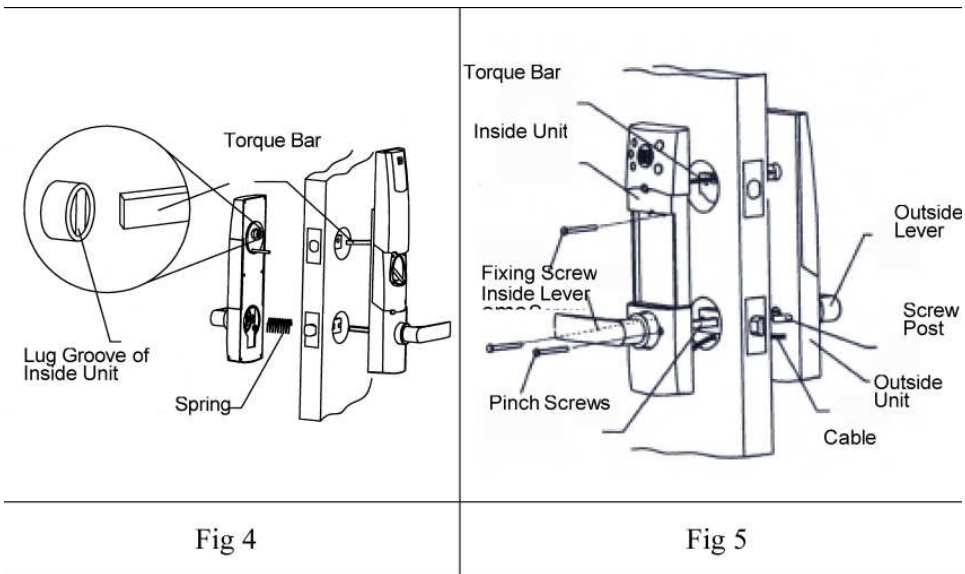

Fig 4
- (1) Remove knob and battery compartment.
- (2) Put the spring (which is packed with pinch screws in accessories bag) into the square hole on Inside unit. (see Figure 4)
- (3) Adjust the lug groove on Inside unit to vertical position with screwdriver (see Figure 4).
- (4) Insert the connector on the cable into J7 on the Inside unit.
- (5) Align torque bar and square axis and insert into the corresponding grooves of Inside unit. Push Inside unit to inner door surface.
- (6) Fasten three pinch screws (see figure 4).